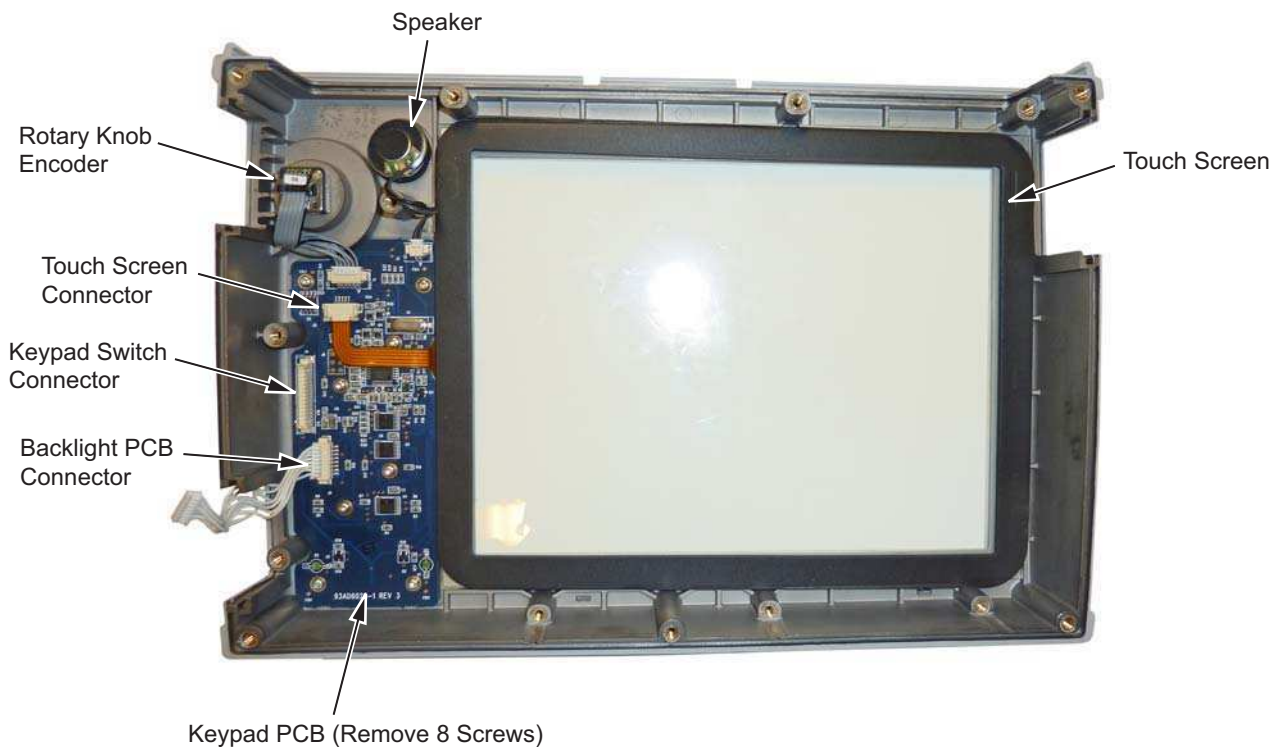

Figure 7-12. Front Panel Keypad Bezel
3. Remove the 8 screws and the cable connectors to remove the Keypad PCB (Figure 7-12). The Rubber Keypad is located under the Keypad PCB.